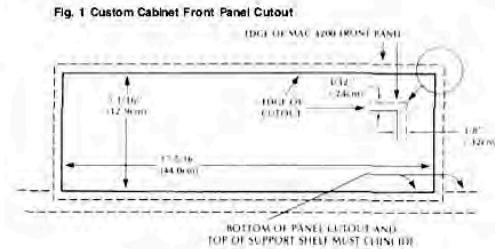

Fig. 2 Custom Cabinet Shell Mounting Cutout
The weight of the receiver must rest on a shelf in the custom cabinet with a 15" (38.1cm) x 8" (20.32cm) ventilation hole cut out. (see Fig. 2) In addition, a single 3/8" to 1/2" (1cm to 1.3cm) diameter hole (see Fig. 2 and Fig. 3) must be drilled in the shelf. A screw inserted through this hole secures the receiver after installation. The top of the shelf must be flush with the bottom of the custom panel cutout.
2. On the bottom of the receiver are the 4 plastic feet held on by screws. Remove these feet. Do not attempt to remove the 4 plastic button glides as these rest against the shelf, (see Fig. 2 and 3) At this point the receiver is ready to be installed.